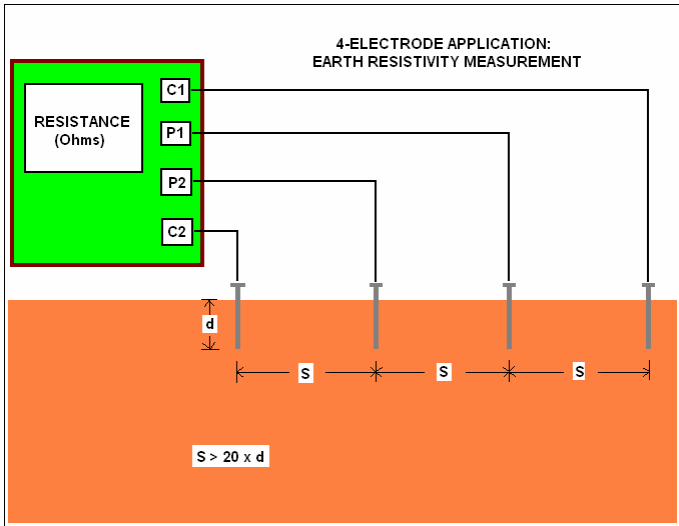

Figure 1
A schematic of this arrangement is illustrated in Figure 1 below.
The H-4385 can be used in conjunction with the 4-lead (color-coded) test reel and four heavy-duty (stainless steel) electrodes (soil pins) – (H-4388). The test leads are connected to the H-4385 as shown in Figure 1. With this arrangement, the H-4385 effectively measures the earth’s average resistance to a depth equal to the electrode spacing (S).